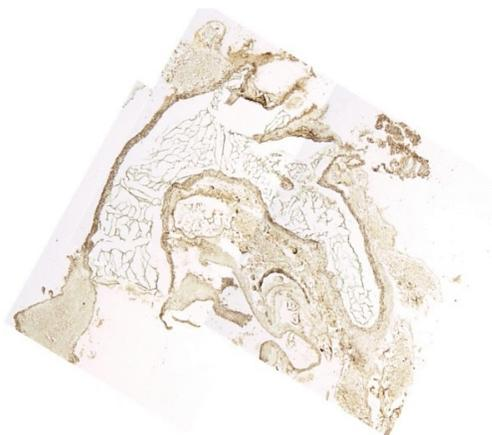

Figure 8.
5. Once the aorta has been reached, start collecting sections using the previously labeled slides (see Figure 8).